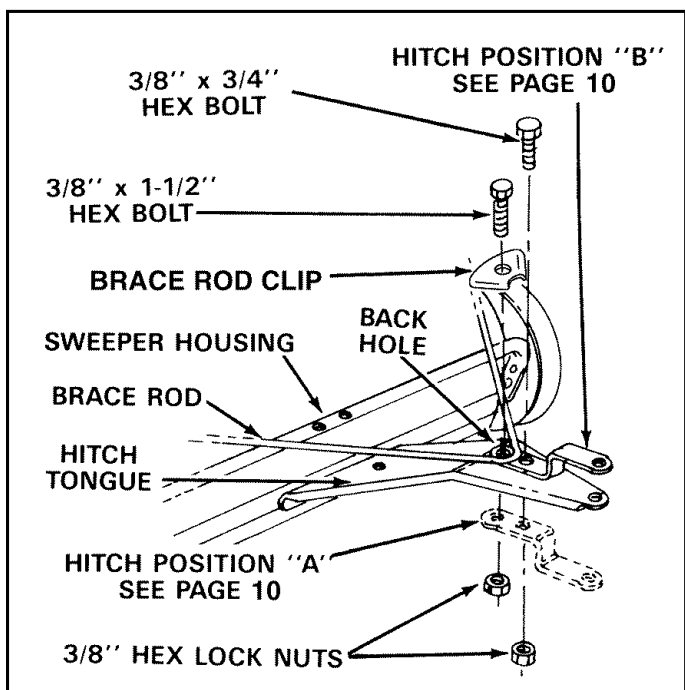

FIGURE 3
NOTE: Before assembling the hitch bracket to the hitch tongue, refer to figure 3 below and to page 10 to determine which hitch position is required for your towing vehicle.
- Align the **front holes** in the hitch bracket and the hitch tongue. Loosely assemble a 3/8" x 3/4" hex bolt and a 3/8" hex lock nut as shown in figure 3. Next, fasten the brace rod to the **back hole** in the hitch bracket using the brace rod clip, a 3/8" x 1-1/2" hex bolt and a 3/8" hex lock nut. **Do not tighten at this time.** See figure 3.